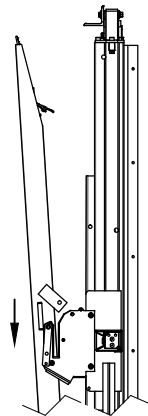

Figure 5: Step 9.
- Step 9. Lower the platform slowly and remove hand from self close arm handle when the ear has cleared the latch plate (Figure 5).
- D. Stand in the area indicated by the footprints in the figure below (Figure 5), keeping hands and feet away from the edges and any moving parts.